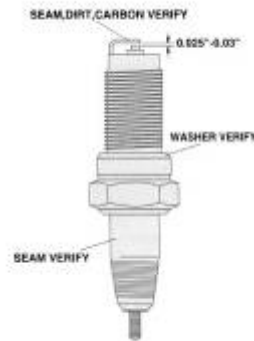

Figure 24
- Before installing spark plug coat threads lightly with graphite grease if possible, to ensure easy removal next time the spark plug needs inspection (**see** Figure 24).